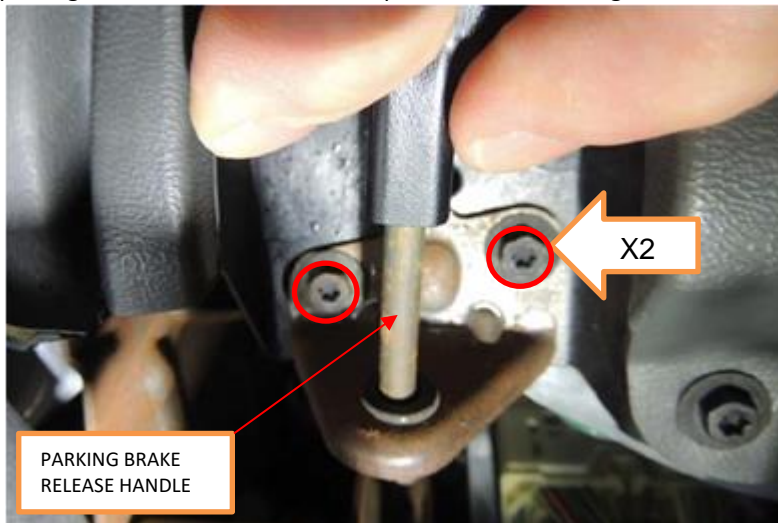

FIGURE 4
2. Remove the two parking brake handle retainers and position aside. See Figure 4